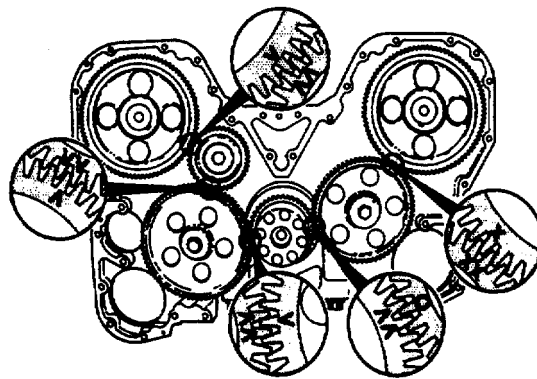

FIGURE 3-20. Idler Gear Timing Marks.
The idler gears (2) have index marks that must be aligned with index marks on the crankshaft and camshaft gears. If the marks are not aligned the engine timing will not be correct and the engine will be damaged (FIG. 3-20).